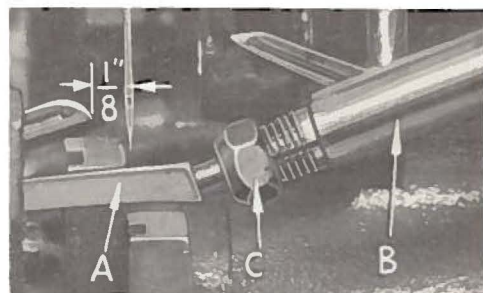

Fig. 5
At this point, insert lower looper (A, Fig. 5) into bar (B). With lower looper at left end of its stroke, set looper point 1/8 inch from center of needle (Fig. 5), using looper gauge No. 21225-1/8. Do not have lower looper deflecting needle. Tighten nut (C).